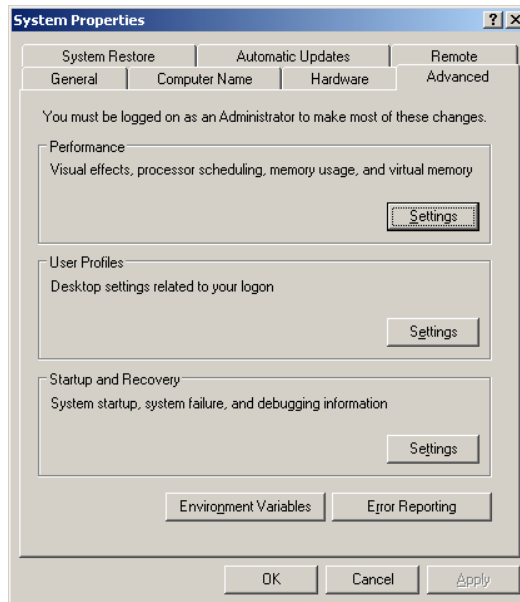

Figure 1-188. System Properties – Advanced tab
- d. Select the **Advanced** tab (Figure 1-188).